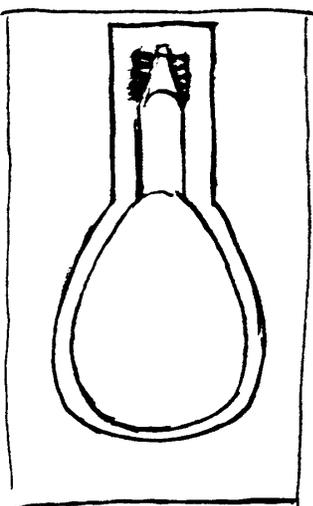

Figure 1
3. Be sure to allow for angle of head in over-all length of this pattern and allow for more than one inch increase along neck sides. *Figure 1.*